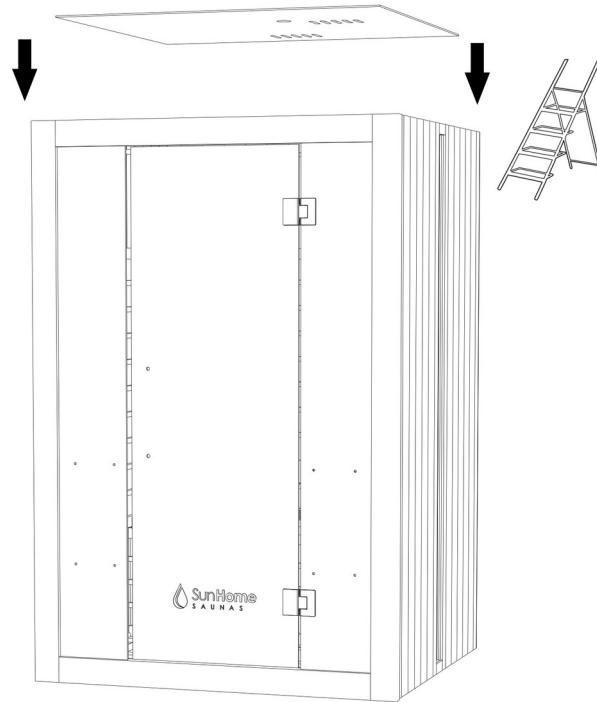

Figure 20. Dust Cover lowered onto the Ceiling Panel over the connections.
- With the Function Test passed and the power cord unplugged, position the Dust Cover over the connections on the Ceiling Panel as shown in Figure 20.
- Using the power drill with the Phillips bit or the Phillips screwdriver, secure the Dust Cover with the (12) black 3 × 16 mm screws. Drive each screw until the head seats; do not over-tighten, which strips the thin cover.